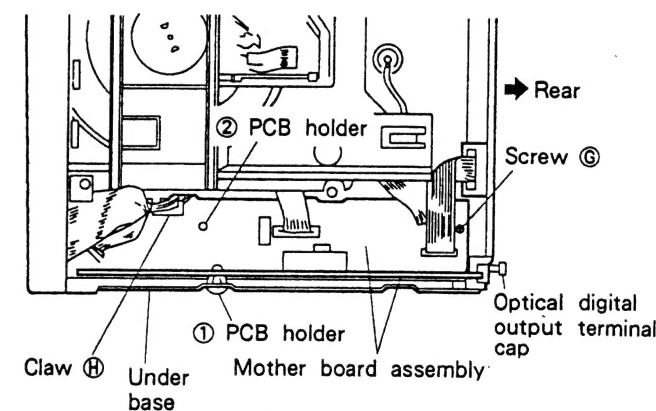

Fig. 2 - 3.
- ① Remove the float base. (See 2.3.)
- ② Remove the gear pulley and driving gear.
- ③ After rotating the clamp cam fully in the counter clockwise direction, pull it up.
- ① Remove the tray. (See 2.1.)
- ② Remove the operation panel and rear base. When removing the operation panel, remove the flat cable for the transformer board and the mother board assembly. Moreover, when removing the rear base, remove the cap of the optical digital output terminal.
- ③ Remove screw ⑦ holding the mother board assembly.
- ④ Remove the bundle of wires of the mother board assembly from claw ⑩ of the loading base.
- ⑤ After removing the board from the PCB holder in the order of ① and ② shown in Fig. 2 - 3, pull it out.